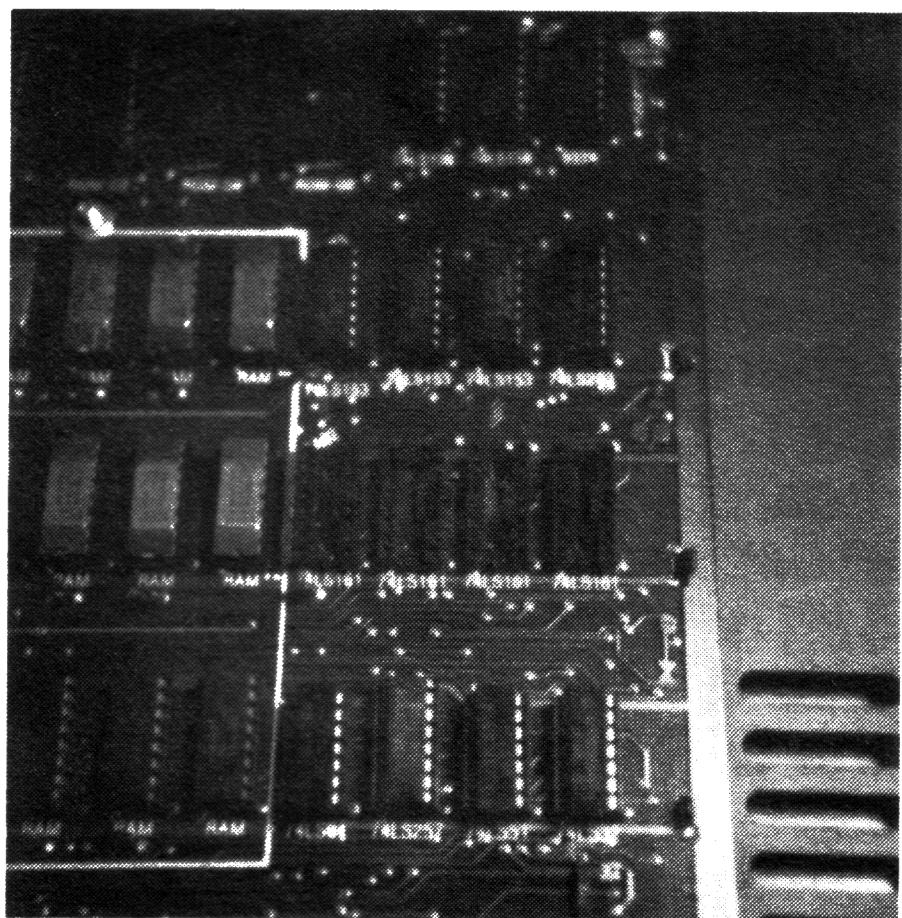
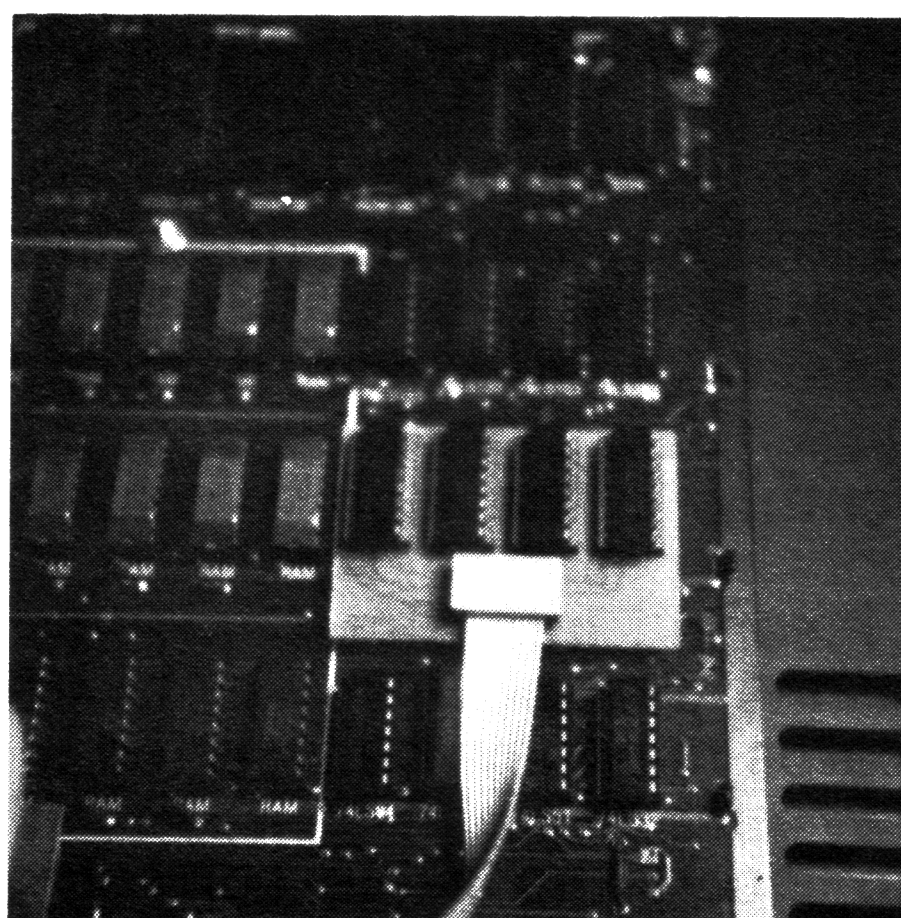
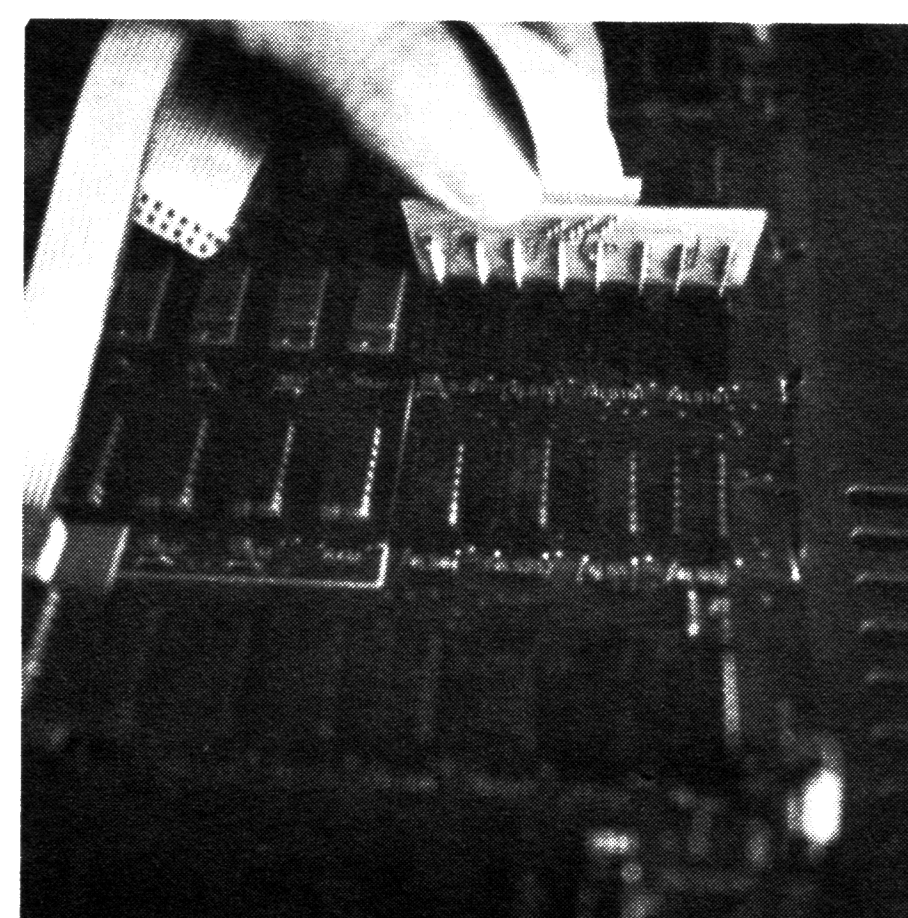

FIGURE 1
FIGURE 2
FIGURE 3
2. Using an IC extractor, remove the four 74LS161 ICs located at D-11, D-12, D-13 and D-14. These positions are shown in Figure 1. Insert the four chip daughterboard into the empty four IC sockets as shown in Figures 2 and 3. Figure 3 shows how the daughterboard is inserted into the empty sockets. If your particular Apple has bypass capacitors that cause an interference with the insertion of the daughterboard, push these capacitors down flat on the Apple motherboard. We have found that the board can be rotated downward as the pins engage the IC socket holes. After the board has been partially inserted, apply pressure to the top of the board sockets to firmly seat all of the pins. The board must be firmly seated for proper operation. The four 74LS161s removed from position D-11, D-12, D-13 and D-14 can now be inserted into the daughterboard. Please maintain proper orientation of the ICs. The cable attached to the daughterboard should be pointing toward the front of the Apple II.